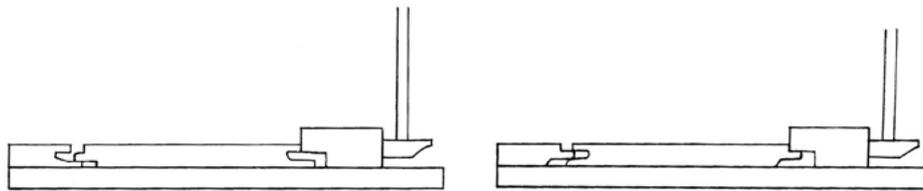

Fig. 2 – Flat Installation
- Lay the new board flat on the floor and align it to the previously installed board. Using a specially designed Unilin tapping block (available from your dealer), gently tap the boards together until the joint locks. Do not try to close the joint with a single hit on the block. Use a series of light taps until the joint closes completely. This method should only be used in situations where the Angle-In method is not feasible, or for tapping closed joints that have not locked completely. Refer Figure 2